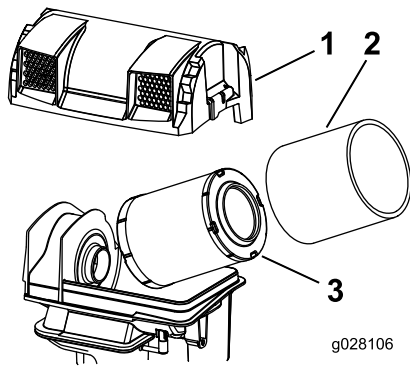

Figure 22
3. Remove the foam and paper elements (Figure 22).
4. Remove the foam element from the paper element (Figure 22).
2. Install the elements onto the air-cleaner base (Figure 22).